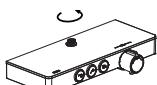

Figure 2
- Remove the raiser rail connector from the thermostatic shower panel and take off the glass cover (Figure 2/3).